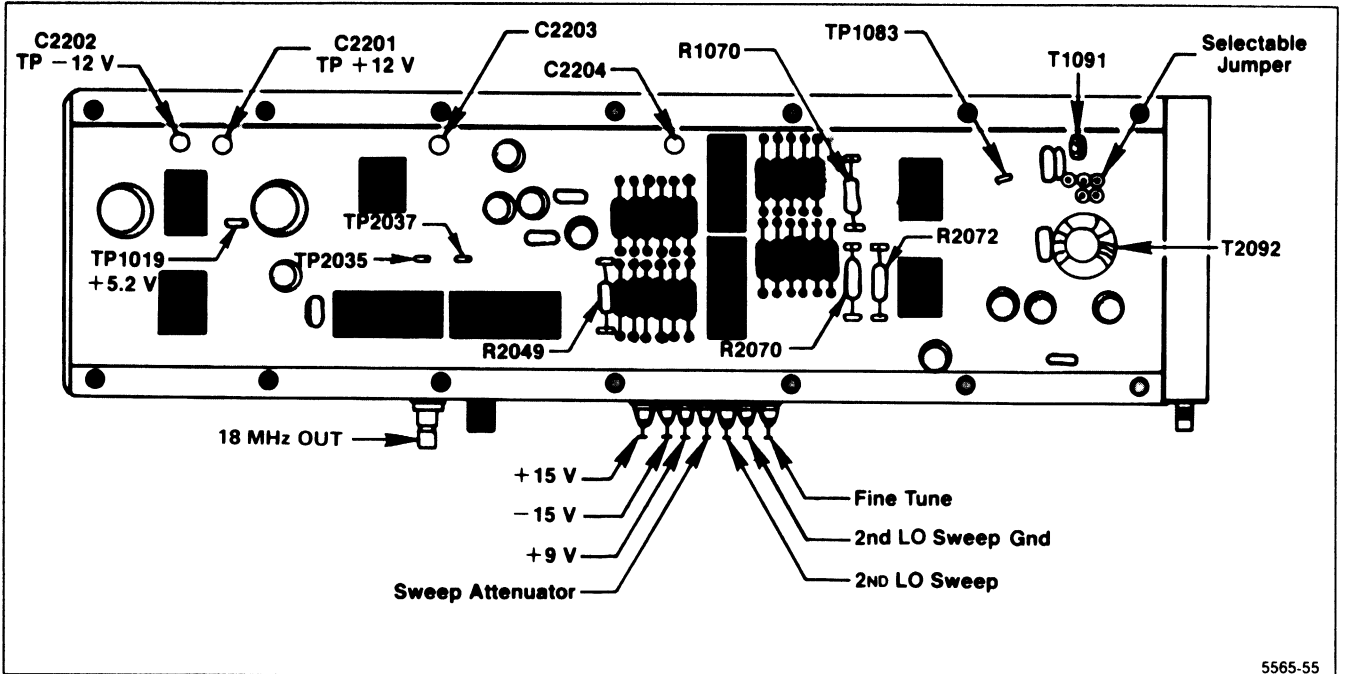

Figure 6-16. 16—20 MHz Phase Lock circuit test point and component locations.
Remove the 14 screws that hold the cover on the mu-metal section and remove the cover. Unsolder the leads to feedthrough capacitors C2203 and C2204. (These are the center two feedthrough terminals that feed through the circuit board, as shown in Figure 6-16.)
4. Remove the mu-metal lid and reconnect the leads to feedthrough capacitors C2203 and C2204, on the Phase Lock board (Figure 6-16). Replace the lid and install the 14 screws. Tighten the screws from the center toward the corners of the lid to prevent gaps between the lid and the housing. Do not overtighten because the screws are easily stripped.
a. Check all input voltages at the feedthrough capacitors in the housing wall. Refer to Figure 6-16 or the data printed on the lid. The voltage LEVEL at the sweep and tune input lines should be 0 V  $\pm$  0.05 V with the FREQ SPAN/DIV  $\geq$  500 kHz.
c. Switch POWER on, then check the internal regulated voltages; +12 V  $\pm$  0.4 V at C2201, -12 V  $\pm$  0.4 V at C2202, and +5.2 V  $\pm$  0.25 V at TP10109 (see Figure 6-16). Check the output of the shaper at TP1083 for a level between +0.3 V and -0.3 V (0 V  $\pm$  0.3 V).
d. Tune the 2nd LO to one end of its range where the frequency readout no longer changes. Note the frequency and measure the voltage on the Tune Line at the input feed-through capacitor (Figure 6-16).
g. If the frequency/volt change is low, decrease the value of R2072 (Figure 6-16).
(1) A shaper diode or resistor may be defective if the comb line spacing is consistent for part of the tuning range and 30 kHz or more off for the other parts of the sweep. To test the diodes for forward conduction, tune to the low end of the range and short R2049 (Figure 6-16). The output of U1073A (pin 1) should equal about +3 V. U1059 diodes B through G and U2059 diodes A through F should all have a 0.48 V forward drop. Use a floating or digital voltmeter to check the drop.
(2) Turn POWER off then temporarily replace Shaper resistor R2049 with a 20 k $\Omega$  potentiometer. Switch POWER on, and adjust the potentiometer to obtain the best overall linearity; decreasing resistance will decrease the spacing between comb lines in the upper portion of the tune range and spread the spacing for the lower portion. Increasing the resistance of R2049 will reverse the effect. When the correct setting is found, turn POWER off, measure the resistance, and replace with a fixed resistor of the same or near the same value.